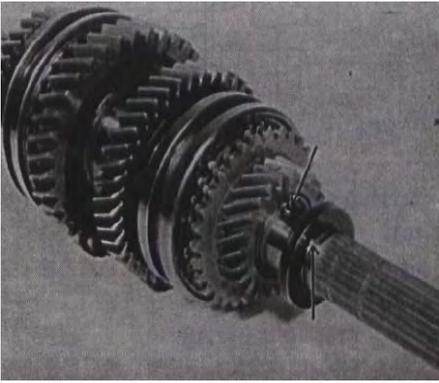

Fig 10-65
(8) Install 5th gear bearing, 5th gear synchronizer ring and 5th gear. Then install ball and washer, making oil groove of washer face 5th gear. (FIG.10-65)